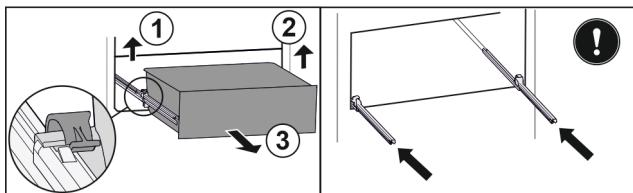

Fig. 93
- Lift left clamp and simultaneously pull drawer forwards on the left. Fig. 93 (1)
- Lift right clamp and simultaneously pull drawer forwards on the right. Fig. 93 (2)
- Remove drawer to the front. Fig. 93 (3)